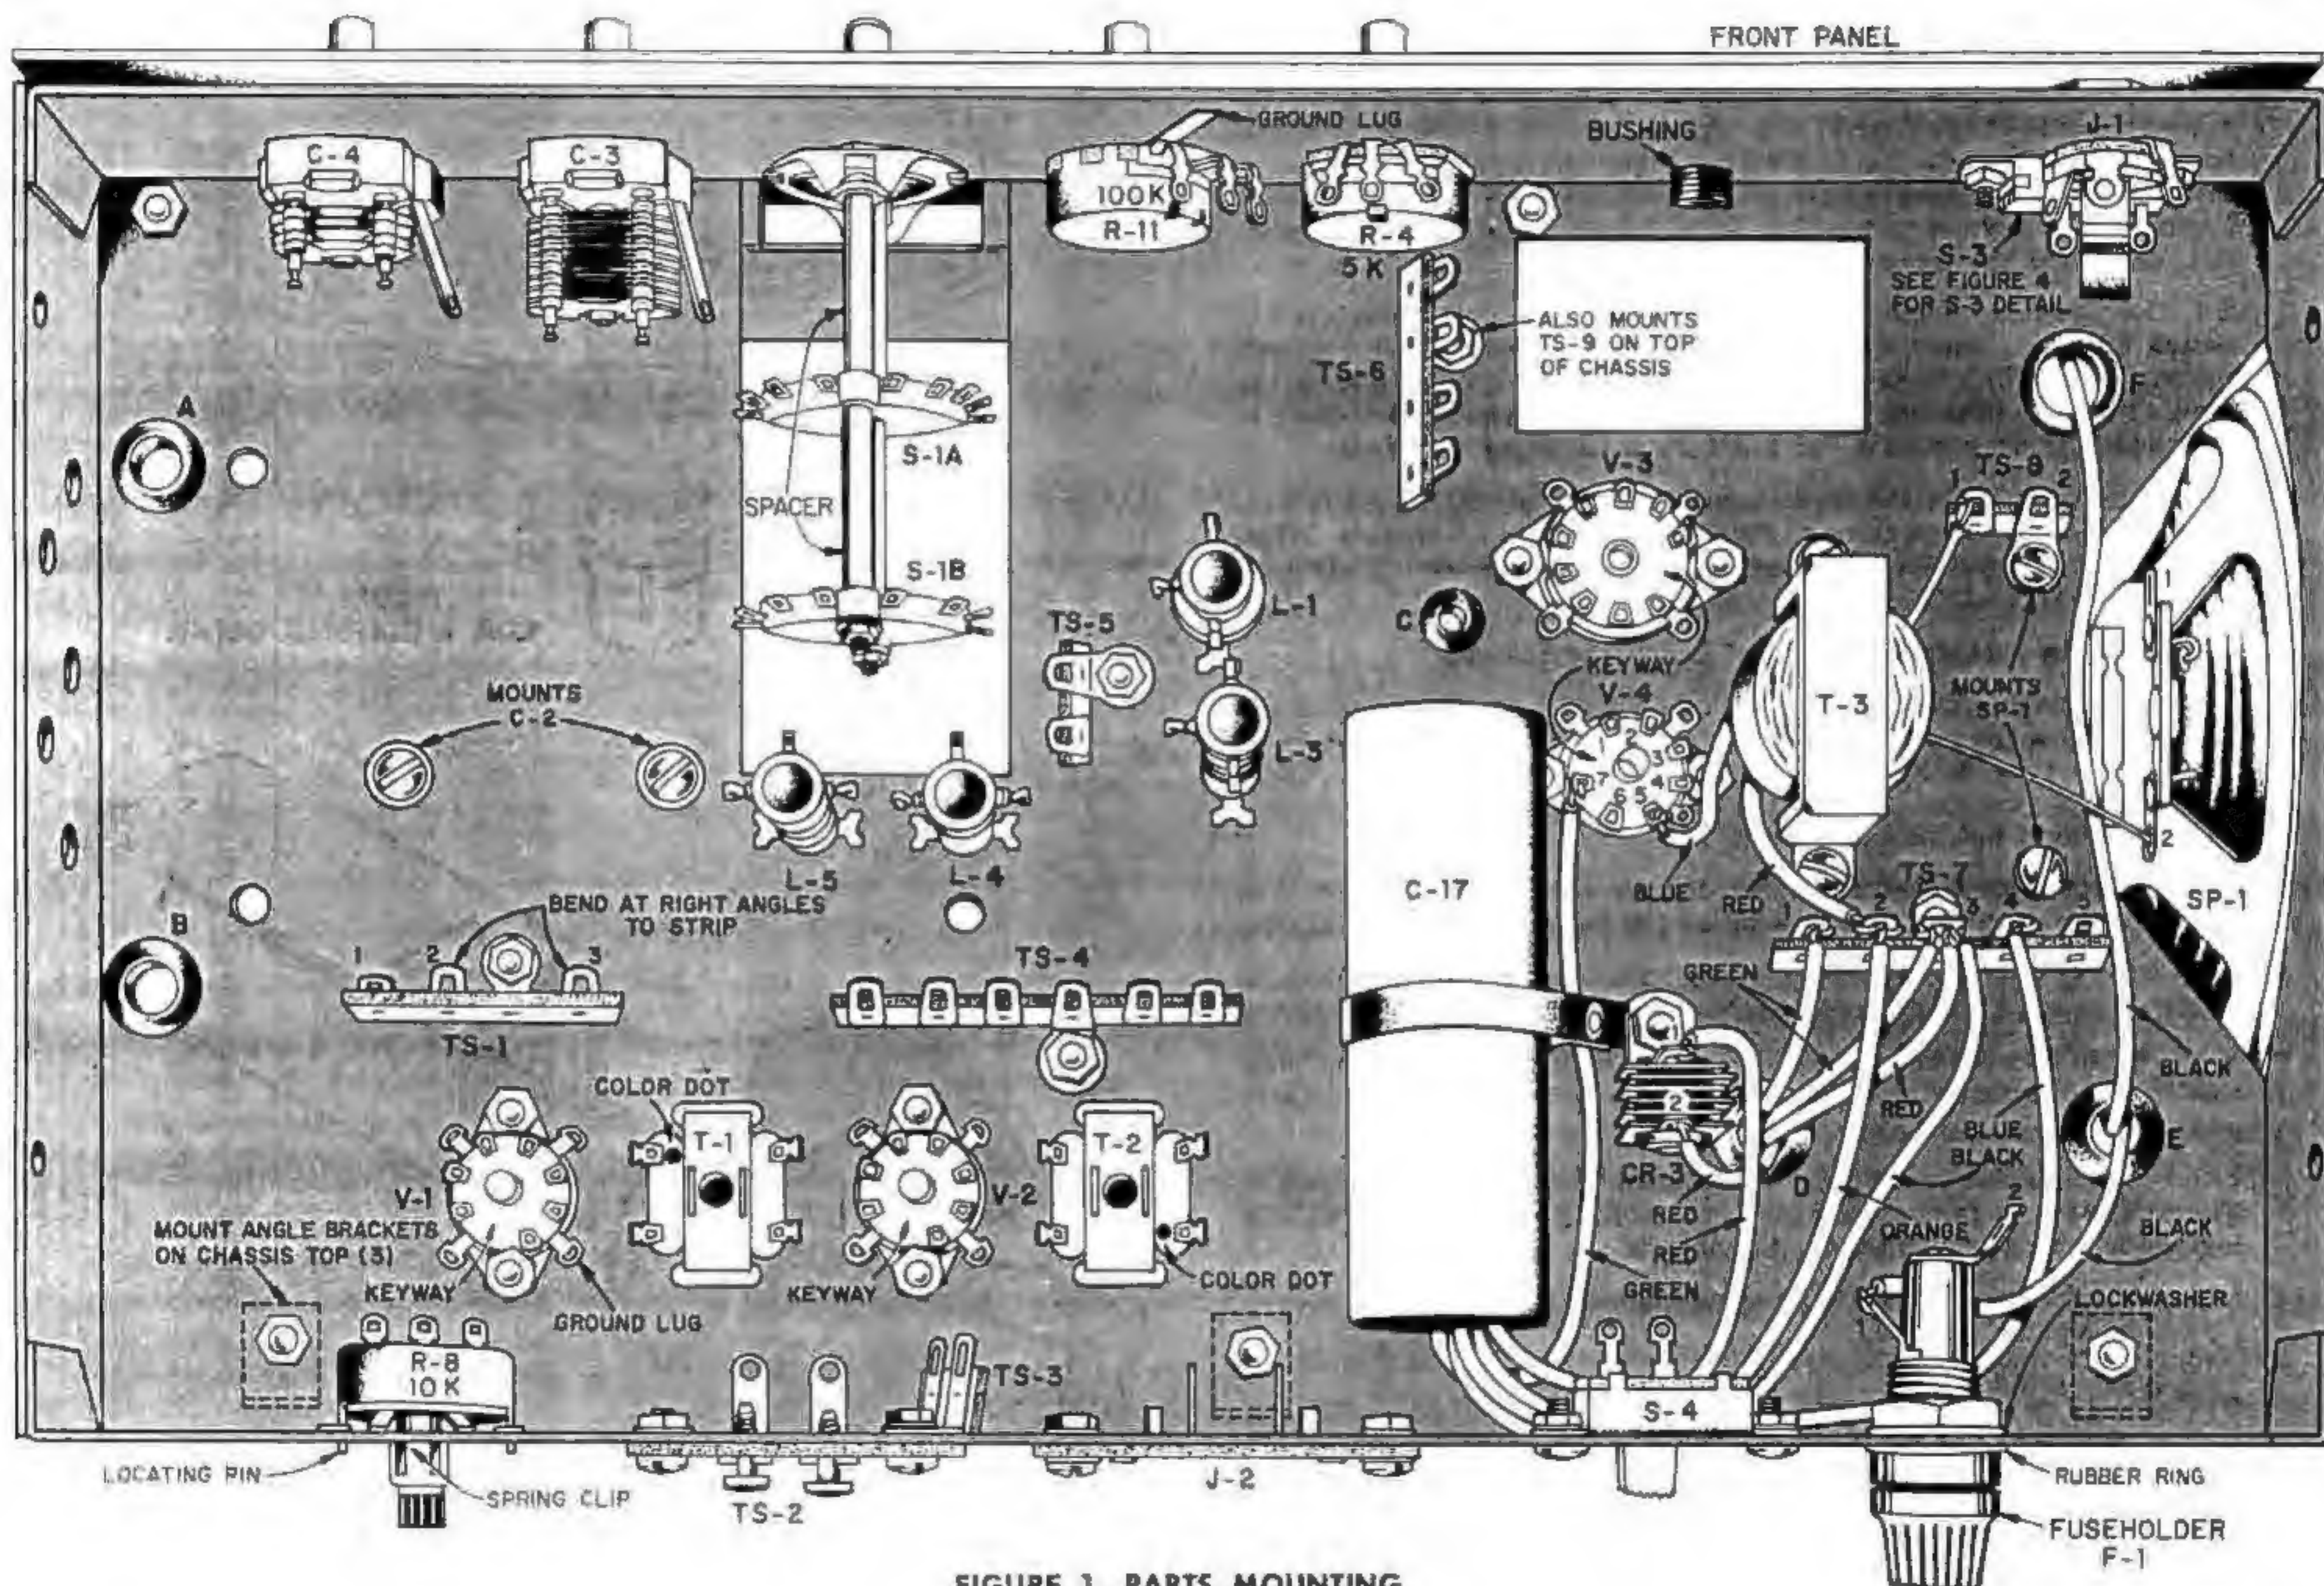

FIGURE 1. PARTS MOUNTING
REFER BACK TO FIGURE 1.
- ✓ R-11, 100K control, a $\frac{3}{8}$ " lockwasher and large ground lug. Bend the tab on the side of the control flat against the face of the control. Slip the ground lug, then the lockwasher, over the shaft of R-11. Now mount R-11 and fasten with a $\frac{3}{8}$ " nut turned to finger tightness. Position R-11 and the ground lug so they are turned slightly towards R-4, as shown in Figure 1.